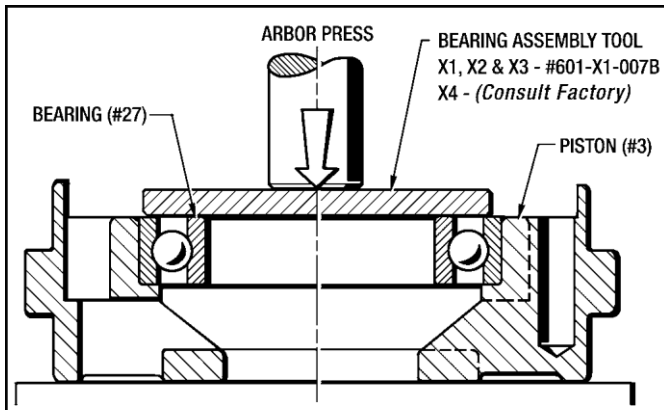

Figure 9.1 - Installing Bearing (#27)
3. Install the Bearing (#27) into the Piston (#3) with an Arbor Press and the appropriate Bearing Assembly Tool as shown in Figure 9.1.